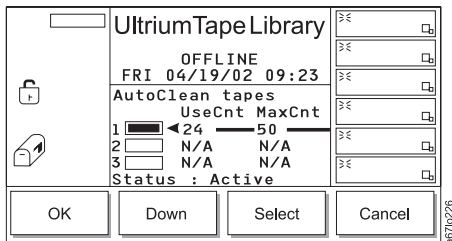

Figure 4-89. Export Cleaning Tape Dialog
4. Press the button below the **Export** softkey. The Export Cleaning Tape Dialog displays (see Figure 4-89).